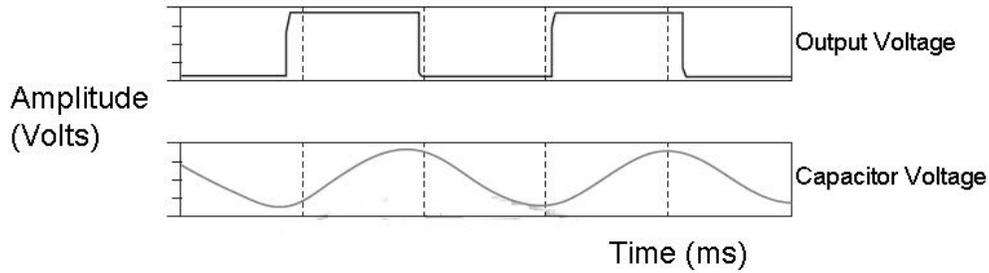

Figure 2 – Sample waveform (Transient Response)
2.1. Plot the transient response (plot of the V_o and V_c as a function of time) for maximum value of frequency of oscillation – the sample waveform is shown in Figure 2.